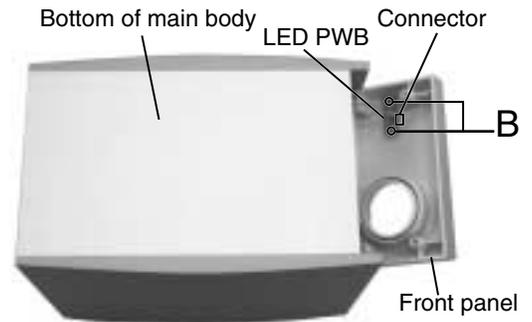

Fig.6
■ **Removing the LED PWB (See Fig.6)**